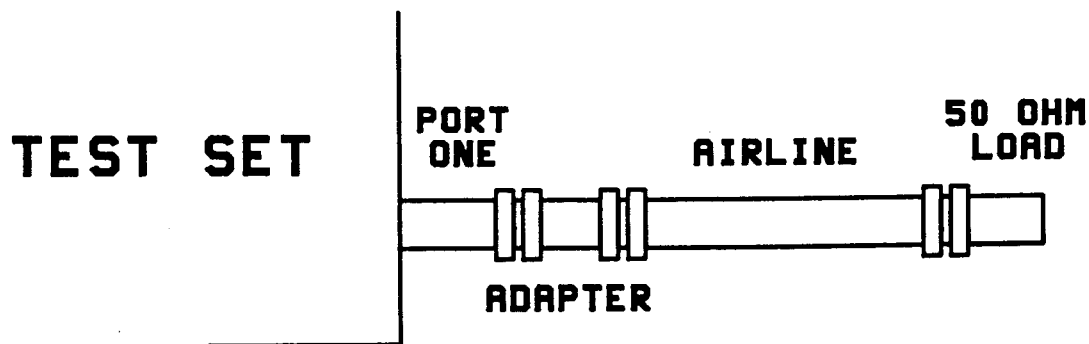

Figure 1. Return Loss set-up
**Return loss** is measured by connecting a 50-ohm fixed load termination through a 7.5 cm airline to the adapter, then attaching the adapter to port one of the test set (see *Figure 1*).